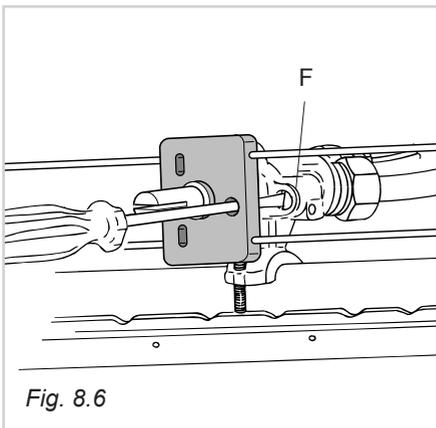

Fig. 8.6
- With a thin screwdriver pass by the hole of microswitch and turn the screw **F** until adjustment is correct (fig. 8.6).